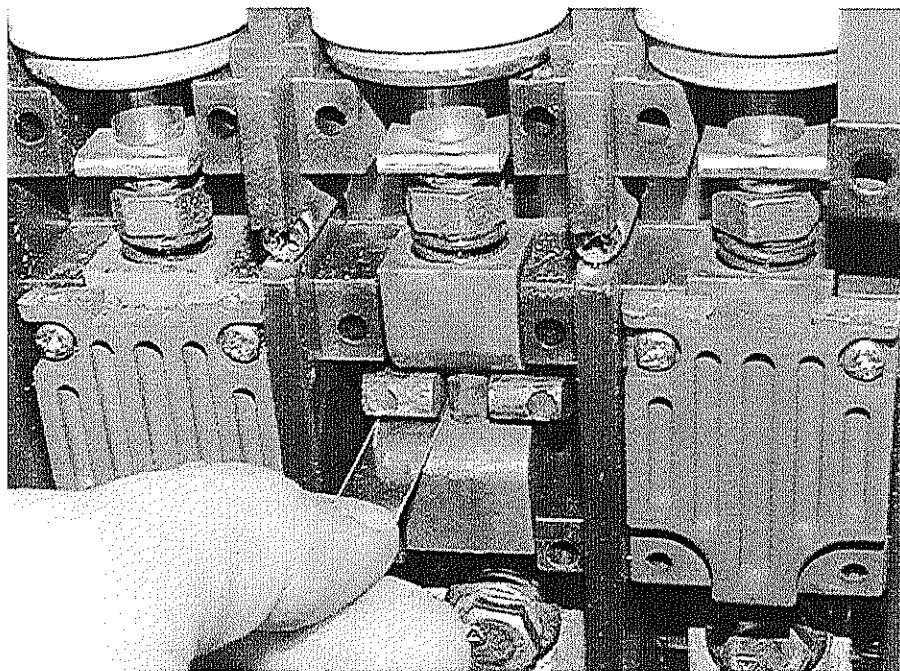

FIGURE 7
2. Remove Phase Cover as described earlier to access inspection area (FIGURE 7).